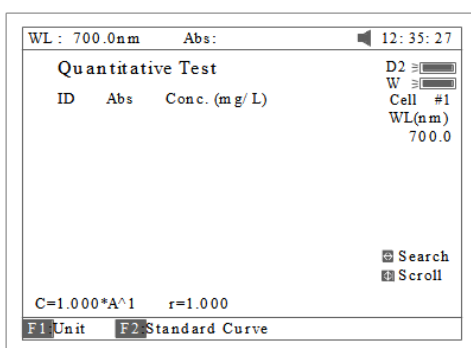
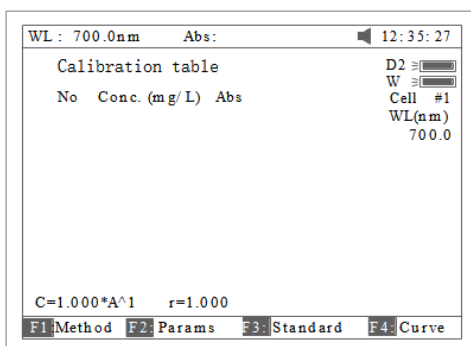
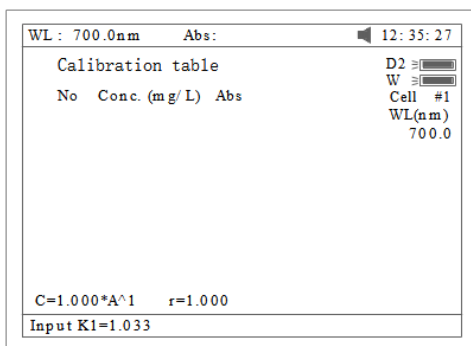
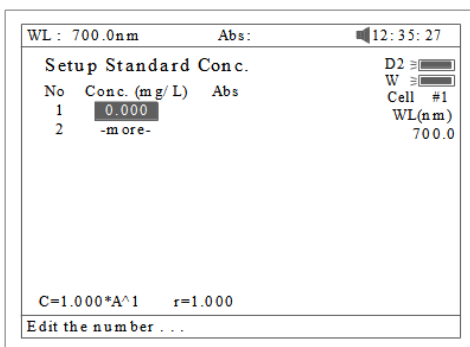

Fig 26
Fig 29
Fig 29A
Fig 30
Press **[2]** in Main Menu for “Quantitative” Test (Fig 26). Press **[ESC/STOP]** to exit.
Note: .If no automatic changer installed “cell #1” will disappear in Fig26.
3. Press **【F2】** in Fig 26 for more items to select .See Fig 29.
3.1 Press **【F1】** in Fig 29 to select fitting method. There are 4 methods for you to choose: Linear fit, linear fit through zero, square fit and cubic fit.
3.2 Press **【F2】** in Fig 29 to enter directly a known standard curve. Fig29A.
3.3 Press **【F3】** in Fig 29 to establish a standard curve by measuring a group of standard samples. See Fig 30.
See 3.2. For Fig 29 enter a known standard curve directly.
Note: All sample results must be taken in screen Fig26.